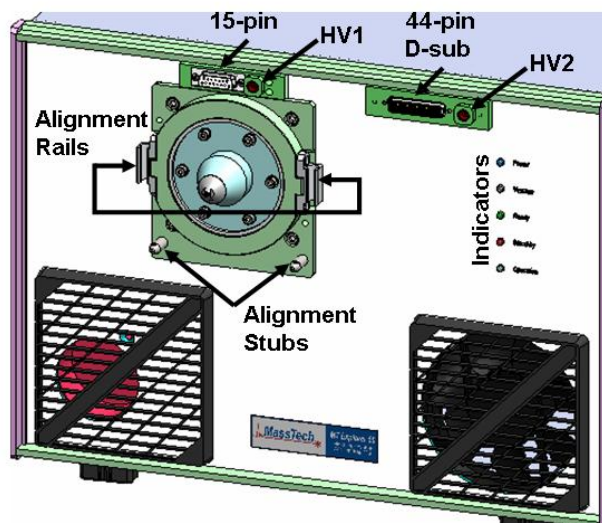

Figure 3.2: Front panel.
Figure 3.2 is a picture of the interface front panel of the ITMS:
1. Connect the power cord (A) to a standard 110-120 VAC wall outlet (or as specified).
2. Set up the laptop PC (provided with the instrument). Connect the Ethernet cable to the PC and the ITMS (C).
3. Connect an exhaust line to the back of the ITMS (B). The exhaust line should vent to a chemical hood or other appropriate ventilation location.
4. Flip the power on switch (A) to the “ON” position.
5. Wait until the operational vacuum is reached, as indicated by the front panel indicator LEDs (refer to Figure 3.2). This process should take approximately 10 minutes.